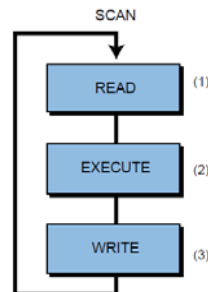

Figure 9.5. Illustration of a scan.
- (1) it **reads**, or accepts, the input data from the field devices via the input interfaces,
- (2) it **executes**, or performs, the control program stored in the memory system, and
- (3) it **writes**, or updates, the output devices via the output interfaces.
- Figure 9.5 illustrates a graphic representation of a scan.